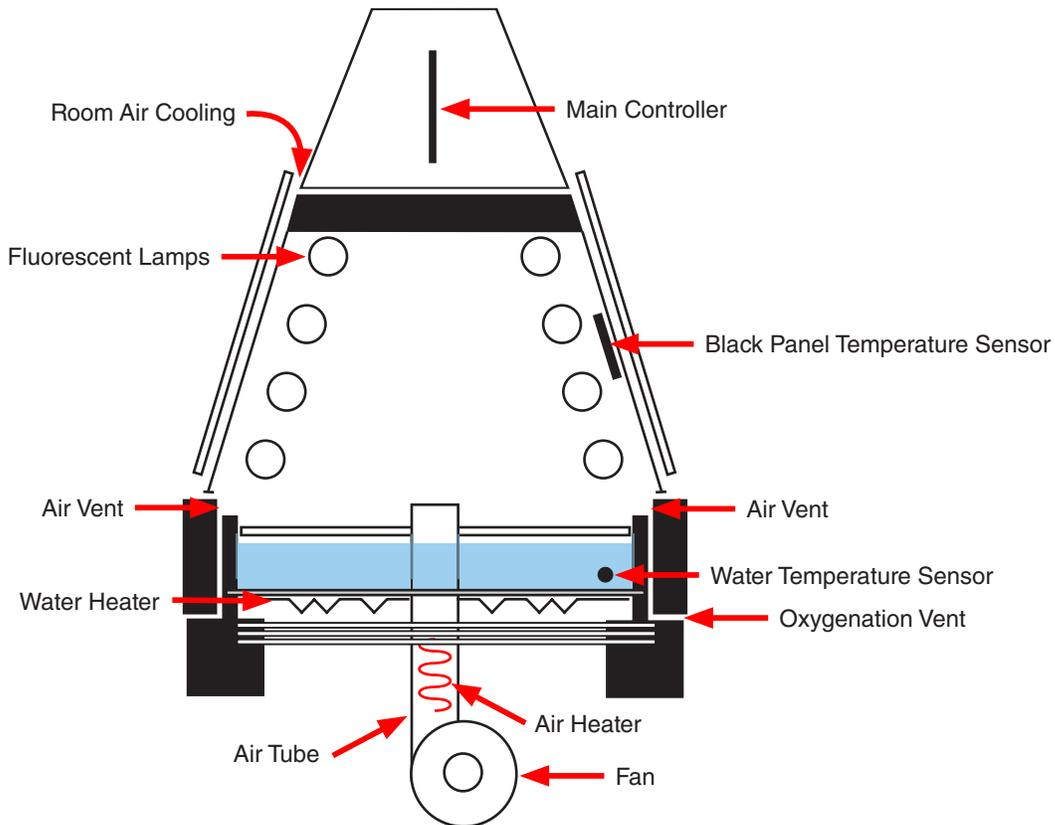

Figure 10.4a: Temperature control schematic.
- Figure 10.4a shows the major components used to control temperature during a test.